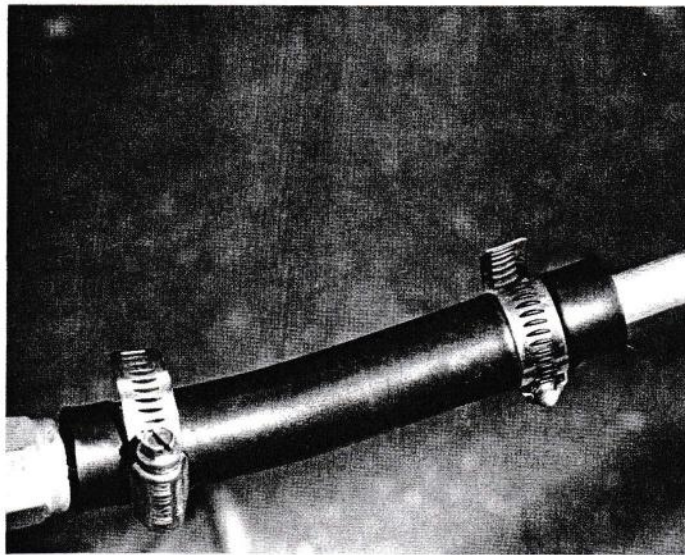

FIGURE 29
The Snowblower Drive Housing mounts to the front of the Tractor, the same as other Gravelly power Attachments. When attaching to the Tractor, the Chute Control Crank should be attached to the top Sprocket Housing Shaft of the Snowblower with the Rubber Connector and two (2) Clamps which are provided. See Figure 29.